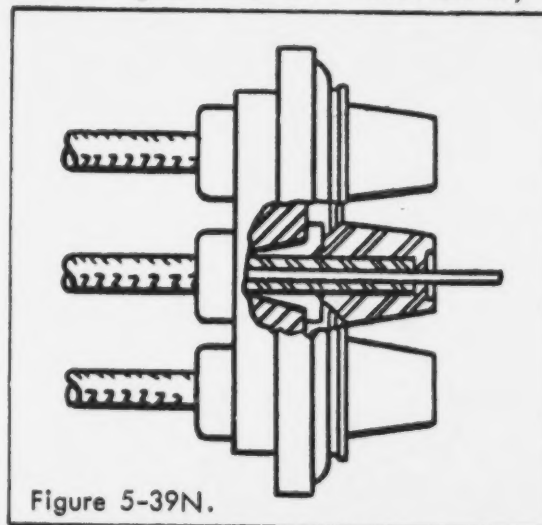

Figure 5-39N.
(8) Insert 11-7073 needle (figure 5-39L) thru small hole of grommet and over stripped end of wire. See figure 5-39M. Slide grommet down needle until it seats tightly against the tapered ferrule. See figure 5-39N.